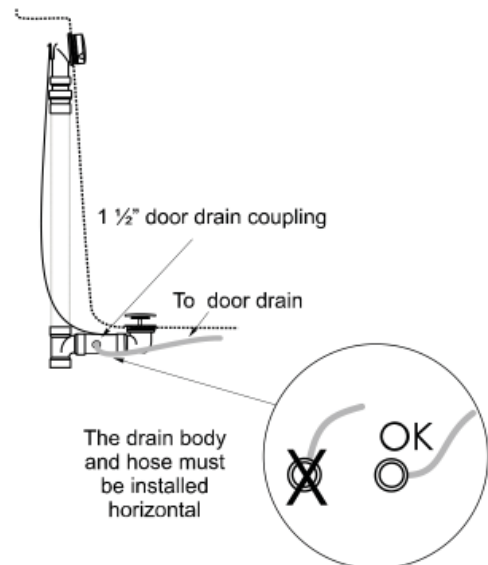

Figure 2
5. The secondary door drain coupling is to be installed horizontally between the drain show and the drain tee as shown in **Figure 2**.